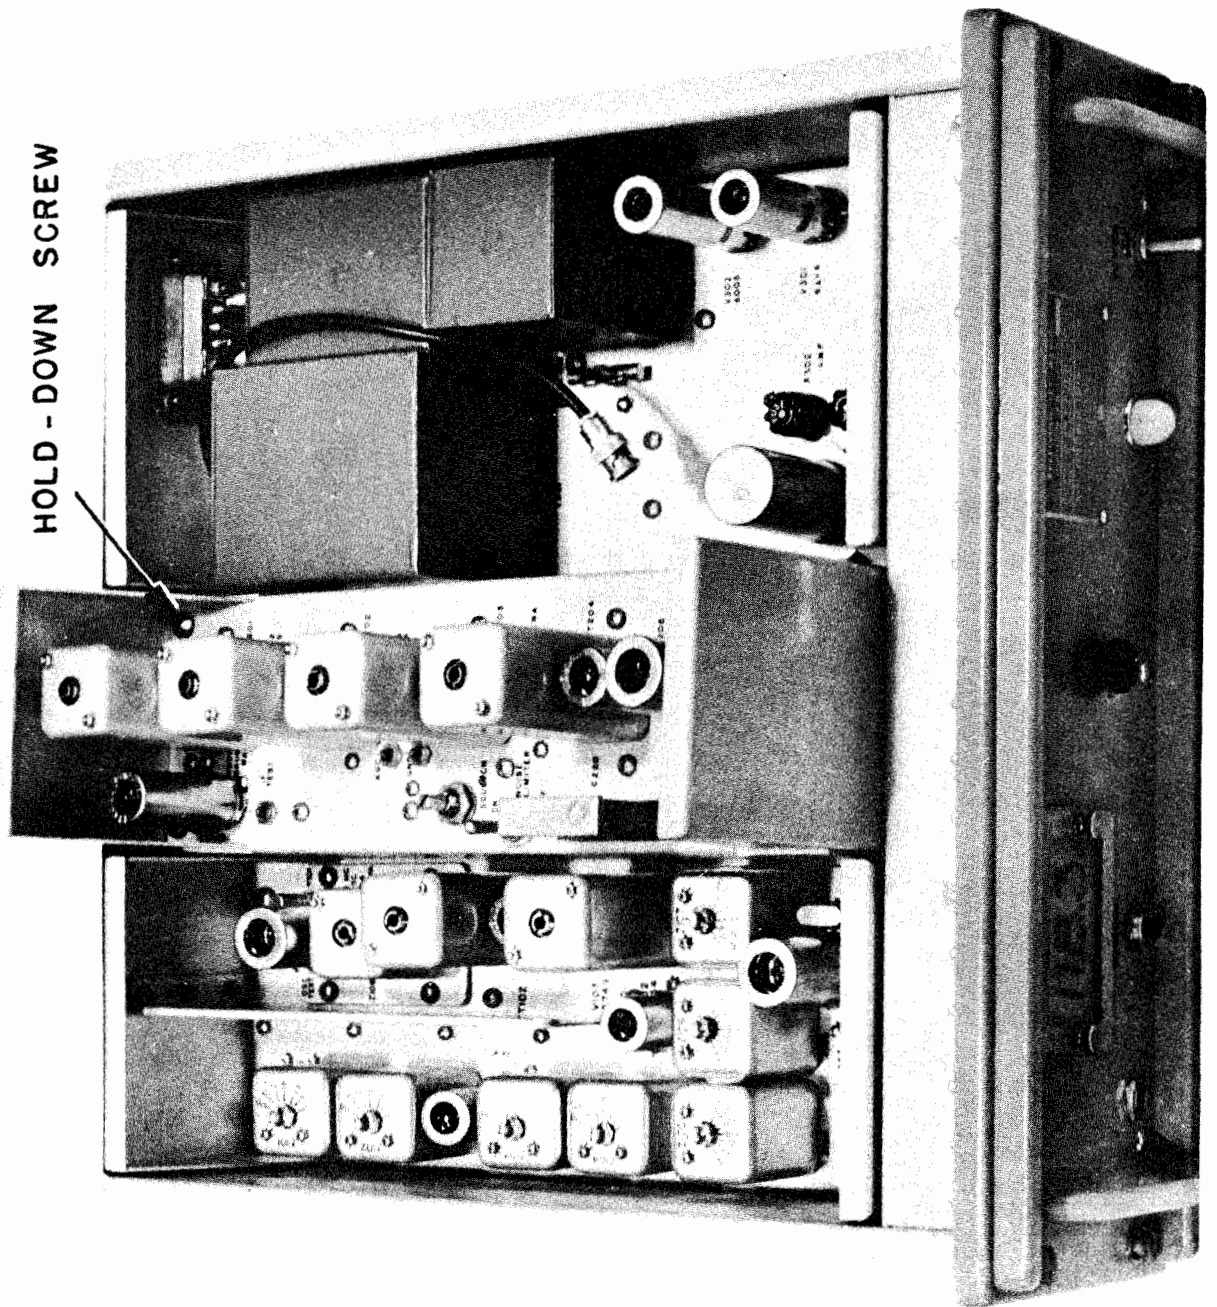

Figure 3-5. Receiver Chassis Assembly, Disassembly
(5) SUB-CHASSIS ASSEMBLY AND DISASSEMBLY. (See figure 3-5).—The AN/FRR-27 equipment comprises a cabinet with a rear compartment built in the case; a chassis frame which includes the front panel; and three sub-chassis assemblies designed to operate as complete functional units, and fabricated so that any or all of the three may be removed and replaced without unsoldering any leads. Connections between units are made through plug-in connector assemblies mounted on the frame shelf. This arrangement permits removal of defective assemblies and replacement by nontechnical personnel. The sub-chassis assemblies are removed by unscrewing the four hold-down screws, one at each corner on the top of the assembly. The unit can then be pulled up and out of the frame assembly. Replacement is accomplished by dropping the new unit into its proper location and replacing the screws.